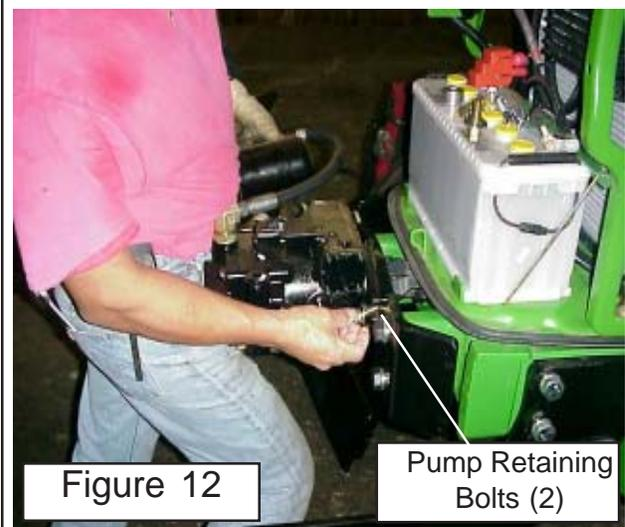
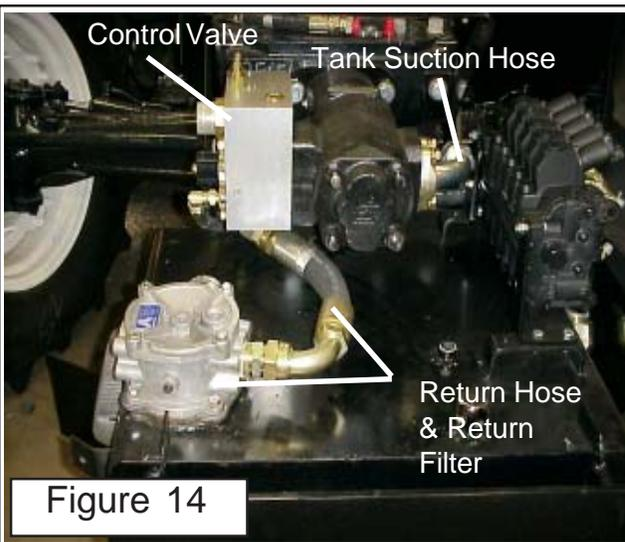
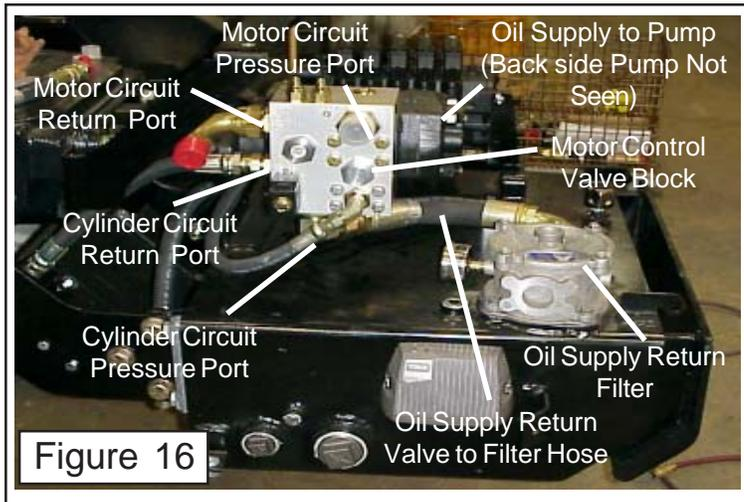

Figure 12
Figure 14
Figure 16
10. Mount Pump to Pump Plate. Remove the Bar that is slid through the Driveshaft Yoke and push the Pump inward (See Figure 11). This will make the two piece Driveshaft slide together allowing the Pump to be pushed towards the tractor. Do this until the Pump is against the Pump Plate (See Figure 12).
11. Install Pump Mounting Bolts. While holding in on the Pump (See Figure 12) start the two Pump Retaining Bolts. Make sure both Bolts are started well before you stop supporting pump. The Bolts should be snugged until pump sits level before you stop supporting it (See Figure 12). Let go of the Pump, it may slide back some and leave a slight gap between Pump and Mounting Plate (See Figure 16).
12. Tightening Pump Mounting Bolts. There is a shoulder on Pump Flange that must line up through hole in Pump Mounting Plate (See Figure 14), if the Pump is slid back as in figure 11 try to push it inward until it is against Pump Mount Plate as shown (See Figure 12). Slowly and alternating from Left to the Right side, tighten the Pump mounting bolts until they are tight. **DO NOT FORCE** Pump through Pump Mount Plate, if it will not freely slide in check for a problem of some kind. Excess force could damage Pump Housing. (See Figure 12). Do Not remove any Plastic caps from Pump inlet or outlet at this time, keep all openings plugged and sealed to keep them clean.
**C. The Suction Hose At Tank:** The suction hose is connected to the pump next. Make certain that suction hose is fastened tightly at the Tank (See Figure 14).
**D. The Suction Hose At Hydraulic Pump** Fill the hose with clean new hydraulic oil (recommended type only). This is so when pump is started it will not start up dry. Install suction hose to hydraulic pump and tighten hose fitting (See Figure 14).
Third is Hose with blue plastic tie, middle connection at boom (See Figure 14) which is case drain from motor. Hose connects to the Oil Cooler / Fan Asy mounted under tractor bolster behind hyd tank. There is short hose which will not have plastic tie that will connect to oil cooler, then goes to tank return (See Figure 16).